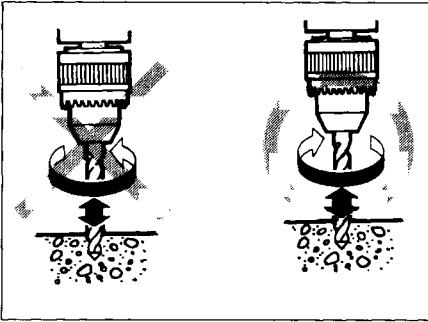

Fig. 1
- When boring concrete or similar hard materials in IMPACT mode, set the bit rotation switch lever to the R-side. **(Fig. 1)**